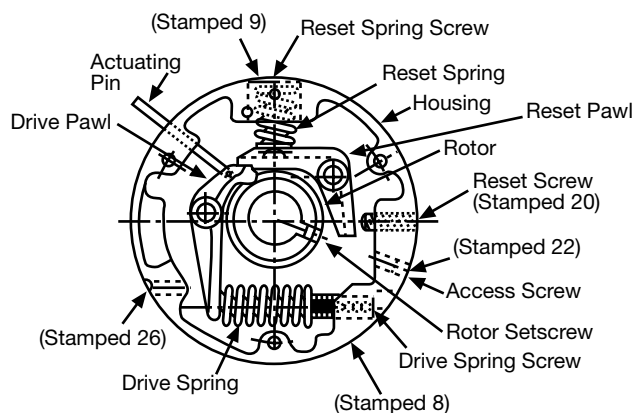

Figure 4 - Clutch Internal Components
- a. After the overload condition has been corrected, rotate the drive until the rotor keyway is in alignment with the hole stamped 22 located on the outside diameter of the housing. (See Figure 4)
- b. Reset the clutch by inserting a hex wrench into the reset screw (Stamped 20) shown in Figure 4, and turn the screw clockwise until the reset pawl releases the drive pawl. Refer to Table 5 for the proper wrench size.